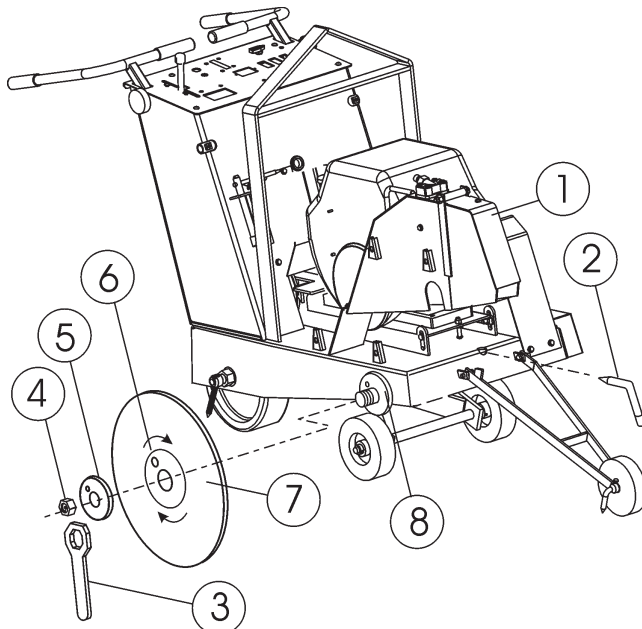

Figure 13. Diamond Blade Placement
- Reference Figure 13 (Diamond Blade Placement) when removing or installing the diamond blade.
1. **Blade Guard** – Unscrew the guard security knob and water hose quick disconnect fitting and remove blade guard (1) from its bayonet fitting and set it beside the saw.
2. **Shaft Lock Tool** – Remove the **shaft lock tool** (2) from the tool holder and insert the pointed end through the front of the saw frame into the machined hole in the blade shaft. A conveniently placed opening on the front of the saw frame permits the use of the shaft lock tool. This tool inhibits the shaft from rotating when applying torque to the blade nut.
3. **Blade Nut Wrench** – Remove the blade nut wrench (3) from the tool holder and unscrew the blade shaft nut (right-side). This nut **loosens clockwise** and **tightens counter-clockwise**.
4. **Blade Nut** – Remove the blade nut (4). For reassembly, **DO NOT** over tighten the blade nut against the outer flange. Tighten blade nut approximately 45-50 ft-lbs/62-69 N/m.
5. **Outside Blade Flange (Collar)** – Ensure that the flange face is clean and free of debris and is placed flush against the diamond blade (7). Check that the drive pin goes through the blade pin hole (6) and seats properly into the inner flange (8).